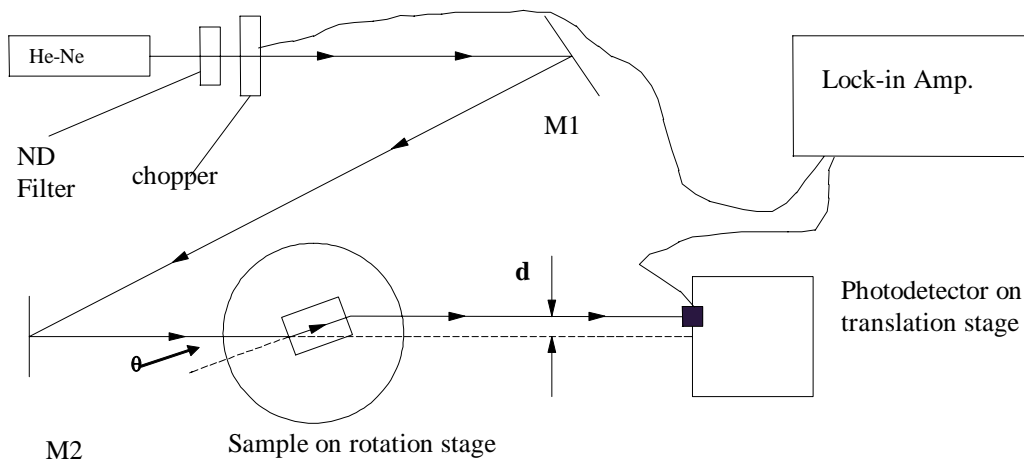

Figure 3: Experimental setup for determining deviation and index of refraction of light passing through a parallel plate of glass.
- 1) Set up the experiment as shown in Figure 3. Make sure the laser beam is parallel to the tabletop and along one of the lines of screw holes after the second mirror (m2). To ensure this, measure the height of the beam after the second steering (m2) mirror making sure that the beam enters the photodetector at this height.